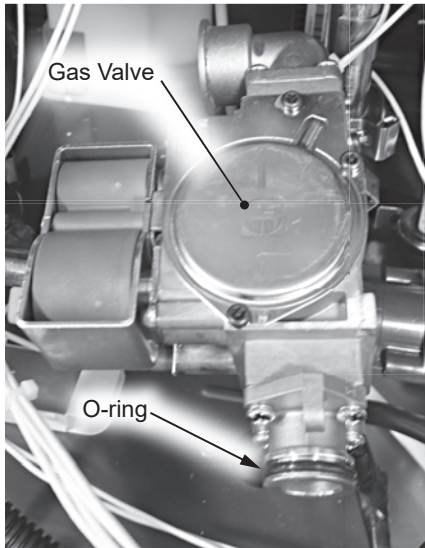

Figure 69 - Gas valve o-ring
- 14 Locate the new O-ring included in the kit, install it as shown in Figure 69.